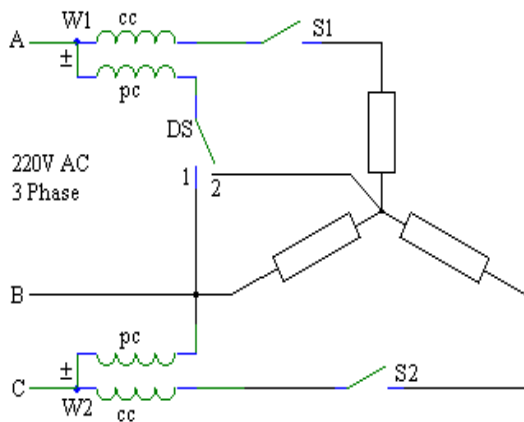

Figure 1: Wye Connected Load
1. Connect the lamp in the balanced Wye as shown in figure 1. Make sure the same number of lamps are turned on in each phase.